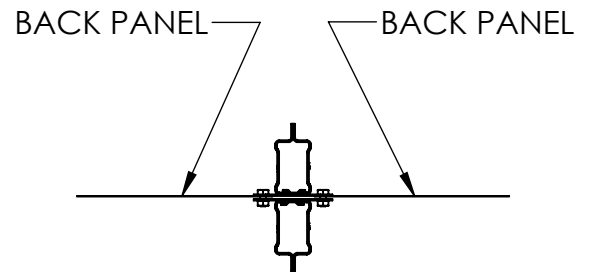

FIGURE 14
**NOTE:** In some requirements, back panel connector strips may be used rather than combination clips in back-to-back units. In these cases, see Figure 14 for attachment details. Consult with Hollowell to determine components supplied.